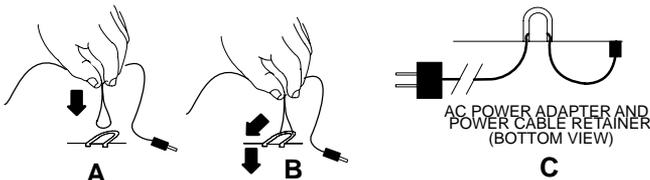

FIGURE 7
1. Refer to Figure 7. Turn the receiver over and locate the power cable retainer. Pinch the ac adaptor cord approximately 6 inches from the dc plug, forming a small loop (A). Hold the cord vertical to the retainer and lower the tip of loop into the curved portion of retainer.
2. Keeping the cord vertical to the receiver, pull the cord under the tab towards front of the receiver (B), then pull down, locking the cord into the retainer (C).